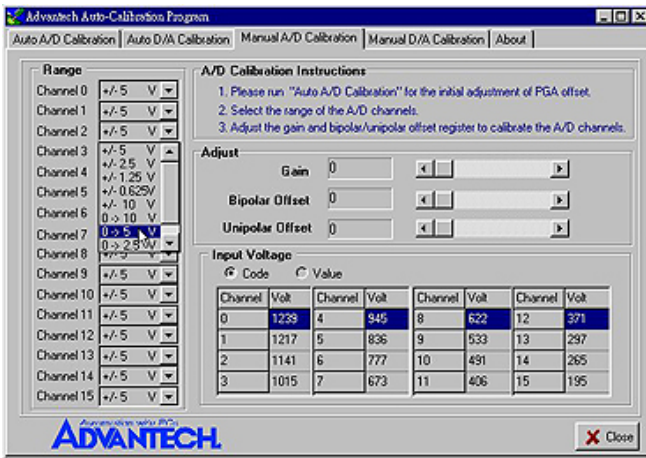

Figure 6-13: Selecting Input Range in Manual A/D Calibration panel
Step 1: Click the *Manual A/D Calibration* tab to show the A/D channel manual calibration panel. Before calibrating, acquire the reference voltage from a precision standard voltage reference. Go to the Range form, select a channel and the target voltage range according to the input voltage value from a precision standard voltage reference(Fig. 6-13).